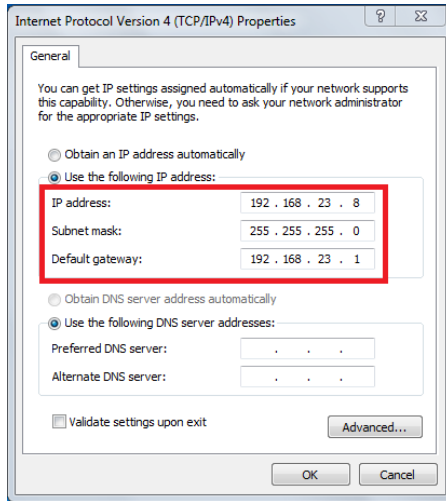

Figure B-3b. Main Control Computer Network Setting
Step 2: Please open the **Control Panel > Network and Sharing Center > Local Area Connection > Properties > Internet Protocol Version 4 (TCP/IPv4)** on the main control computer, as shown in figure B-3b.